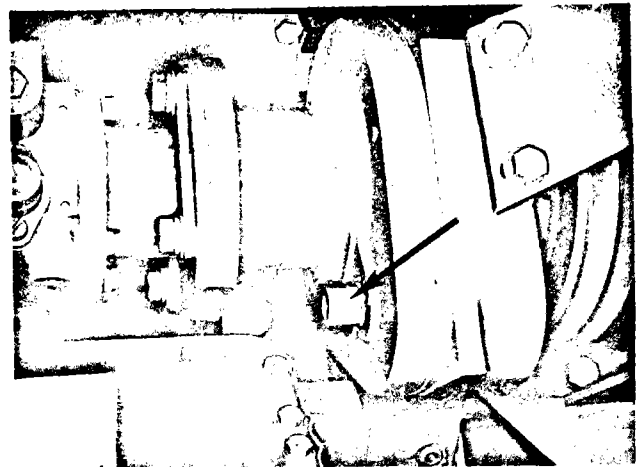

Fig. 2-35, (V51486). Engine barring arrangements — V-903
**Note:** Remove the key, and using either a 3/8 inch hex drive for female type barring device or a 5/8 inch six-point socket for the male type barring device, press inward until the barring gear engages the drive gear; then advance. Fig. 2-35. After completion of adjustment, be sure the drive retracts and install the key into the safety lock groove.
Using the regular engine barring device, Fig. 2-35, rotate the engine in the direction of rotation with the